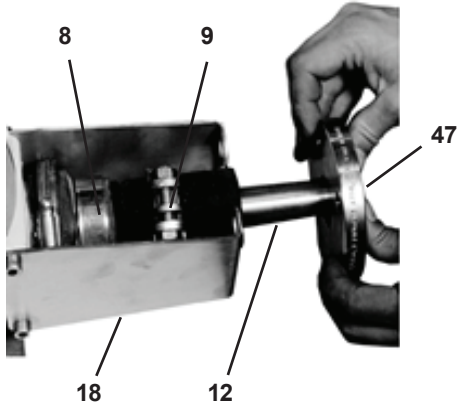

Figure 3
4. -At the discharge outlet, loosen clamps (8) and (9).
-Remove the insert (12) and remove the flange (47) as well as the brackets (18). See Figure 3.